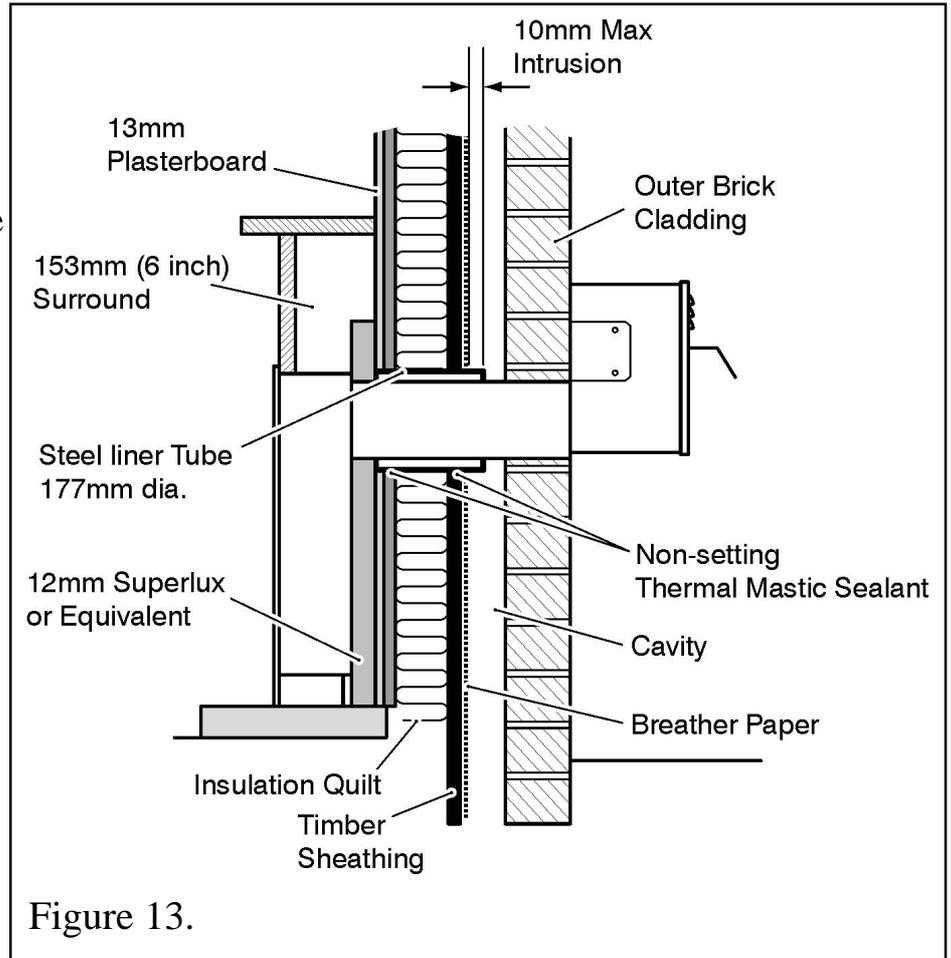

Figure 13.
1. Building regulations require that the outer surface of the flue tube and terminal must not be closer than 25mm to combustible material and must be lined with steel sleeve not less than 0.5mm thick (See figure 13). The sleeve can be made by coiling a piece of sheet steel to between 125mm & 127mm outside dia. and fitting it to the combustible parts of the construction.
This can consist of the usual 13mm plasterboard wall lining plus 12mm of "Superlux" or similar non-combustible material (See figure 13).